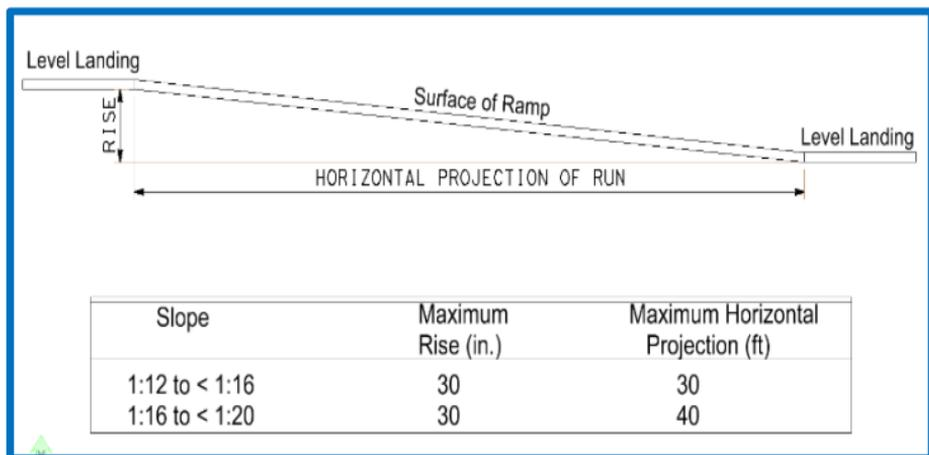

Figure 14 Components of a Single Ramp and Sample Ramp Dimensions (ADAAG)
- Each ramp must have level landings at the bottom and top. A landing must be as wide as the run leading to it and have a minimum length of 60 inches. (See Figure 14.)